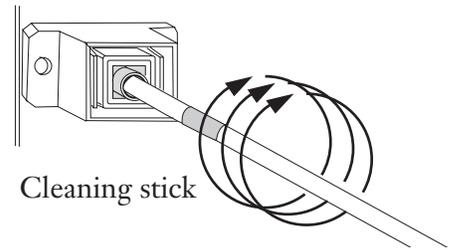

Figure 15 — Clean Adapter
Step 3 Lower the laser safety shutter and **clean the adapter using a dry process** (Figure 15).